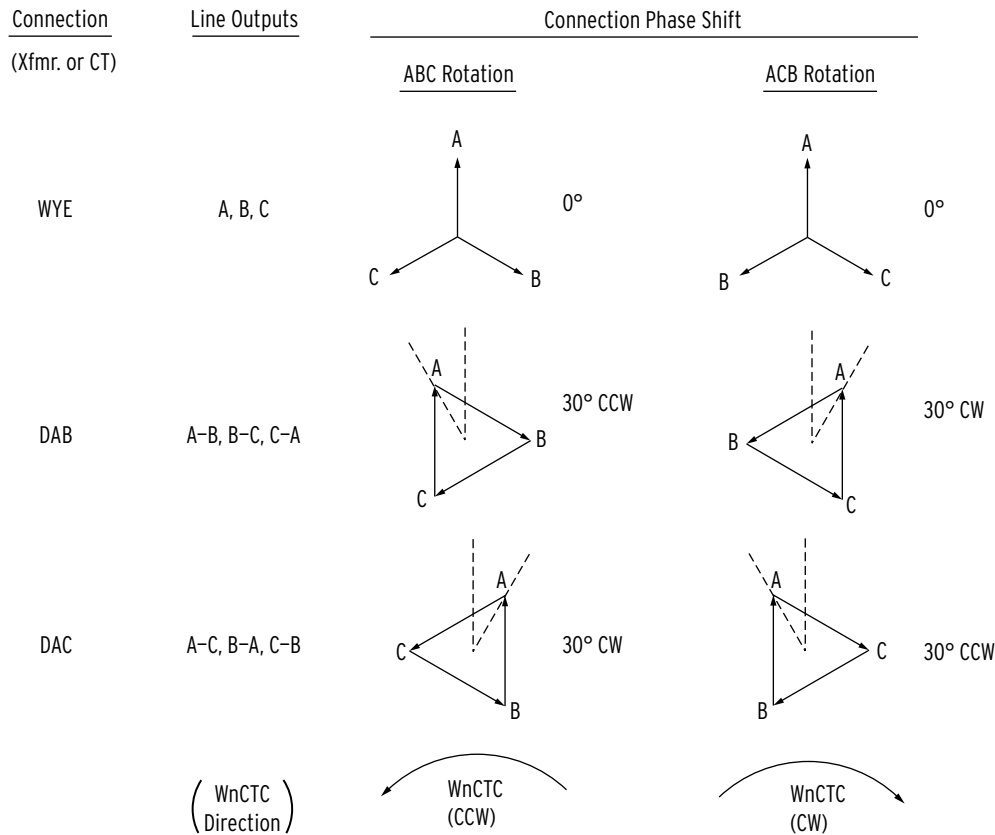

Figure 4.7 Winding Connections, Phase Shifts, and Compensation Direction
Figure 4.7 shows the three basic winding connections, consisting of a wye connection and the two possible delta connections.
There are two possible delta connections. In determining WnCTC, it is essential to know not only that the CTs or transformer windings are connected in delta but in which delta. In this manual we call these delta connections DAB and DAC. In the DAB connection the polarity end of the A winding connects to the nonpolarity end of the B winding, and so on, to produce the delta. In the DAC connection the polarity end of the A winding connects to the nonpolarity end of the C winding, and so on, to produce the delta. In *Figure 4.7*, an arrowhead indicates the polarity end of each winding.
- Step 2. Adjust the terminal-A line voltage direction for each set of input currents by the phase shift (if any) of the current transformer connection. (Reference *Figure 4.7* for this step.)
For ABC phase sequence, begin at the winding direction and proceed in a CCW direction until reaching the reference. For ACB phase sequence, begin at the winding direction and proceed in a CW direction until reaching the reference. *Figure 4.7* shows these compensation directions.